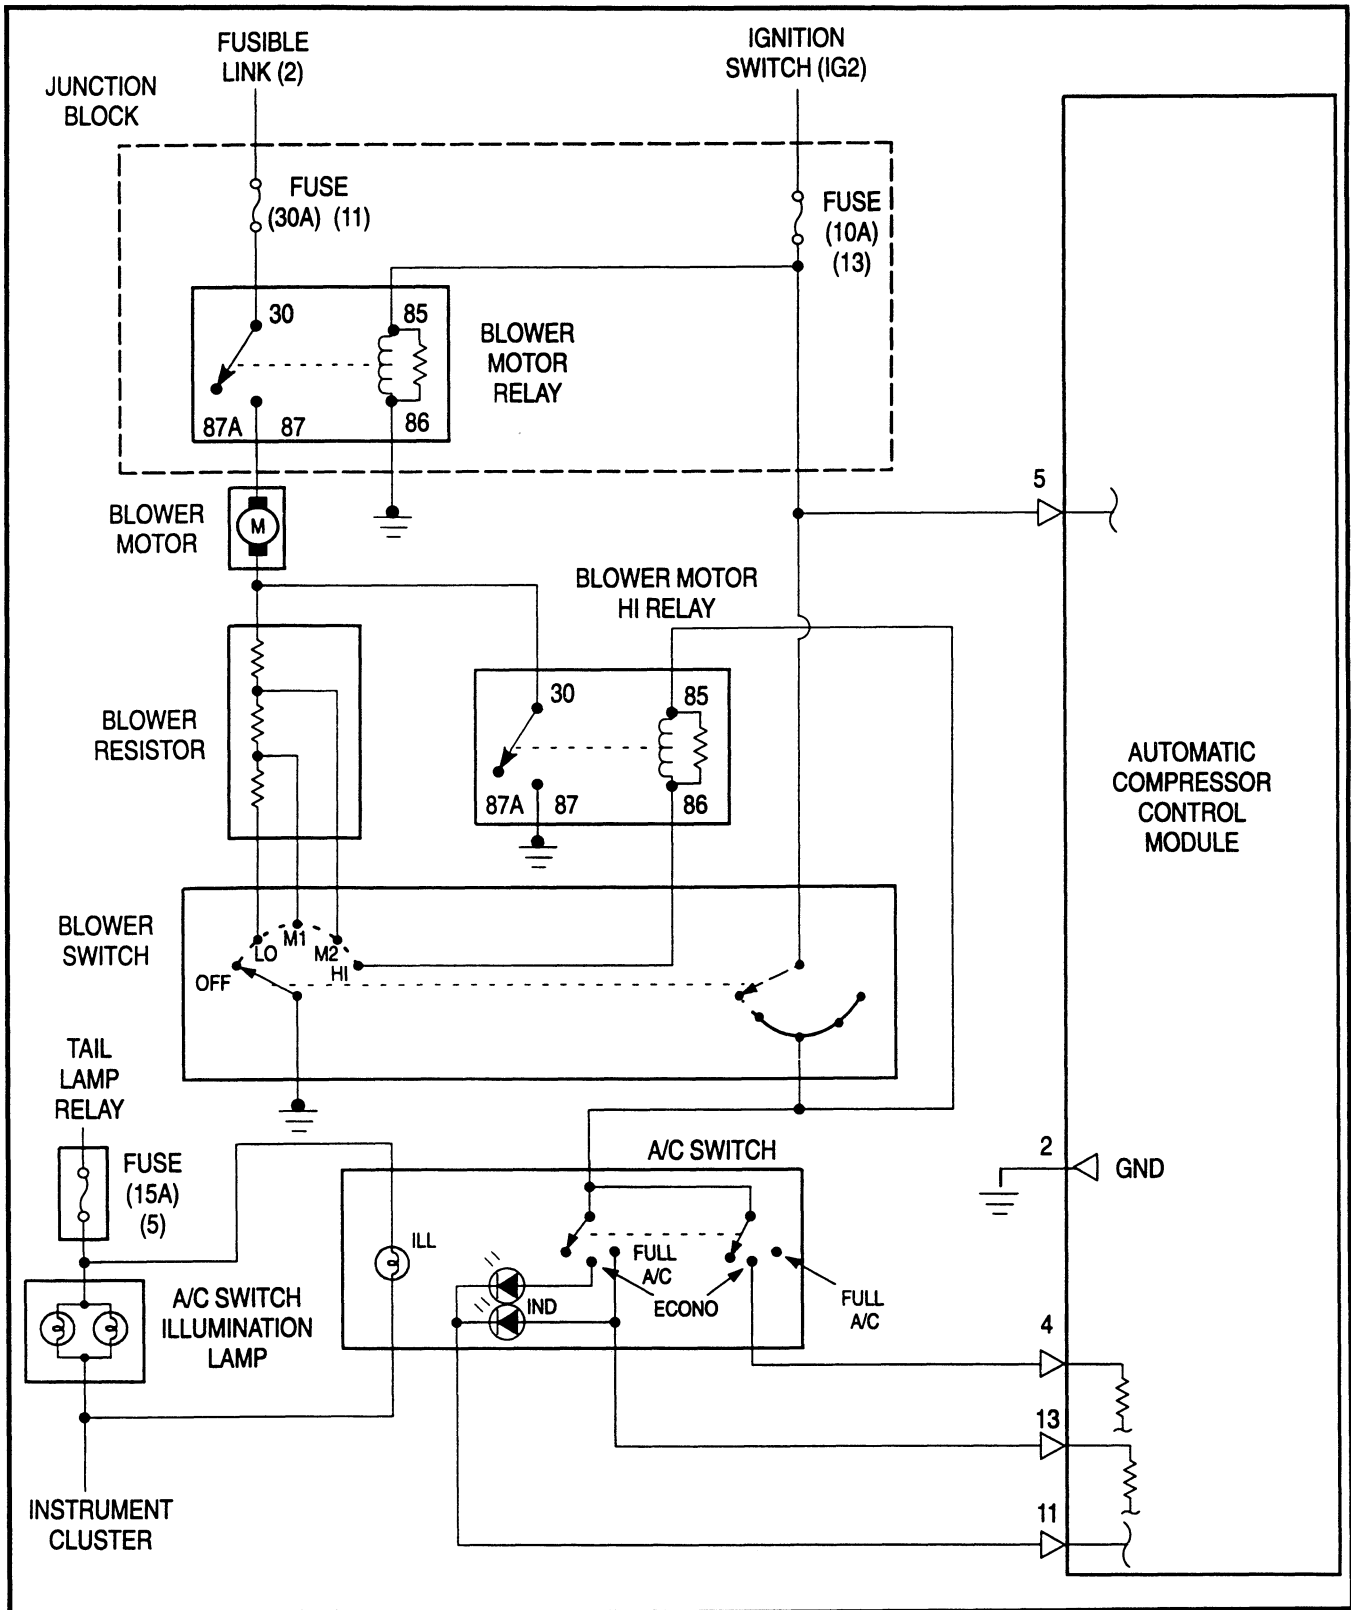

Figure 50 Automatic Compressor Control Module Circuit
The inputs for the auto compressor control module are as follows (fig. 50):
- **A/C Switch** - The A/C switch is fed battery voltage anytime the blower switch signal is positioned in any of the four blower fan speeds (fig. 50). When ECONO is selected from the A/C switch, battery voltage is applied to terminal four of the auto compressor control module. When FULL A/C is selected, battery voltage is applied to terminal 13. These inputs are used by the auto compressor control module to initialize A/C operation.